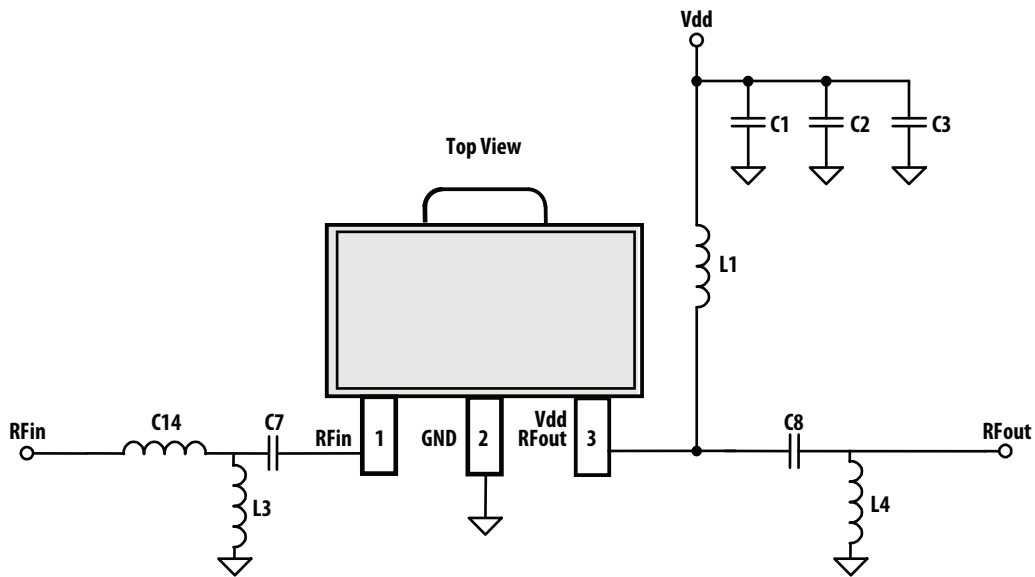

Figure 30. Application Schematic
1. Measurements obtained using demo board described in Figure 30 and 31. 3.5GHz data was taken with 3GHz - 4GHz Application Test Circuit and 5GHz data with 4GHz - 6GHz Application Test Circuit respectively.
$T_A = 25^\circ\text{C}$, $V_{dd} = 5\text{V}$, Input Signal = CW unless stated otherwise. Application Test Circuit is shown in Figure 30 and Table 1.
T_A = 25°C, V_{dd} = 5V, Input Signal = CW unless stated otherwise. Application Test Circuit is shown in Figure 30 and Table 1.
T_A = 25°C, V_{dd} = 5V, Input Signal=CW. Application Test Circuit is shown in Figure 30 and Table 2.
$T_A = 25^\circ\text{C}$, $V_{dd} = 5\text{V}$, Input Signal=CW. Application Test Circuit is shown in Figure 30 and Table 2.
$T_A = 25^\circ\text{C}$, $V_{dd} = 5\text{V}$, Input Signal=CW. Application Test Circuit is shown in Figure 30 and Table 3.
T_A = 25°C, V_{dd} = 5V, Input Signal=CW. Application Test Circuit is shown in Figure 30 and Table 3.